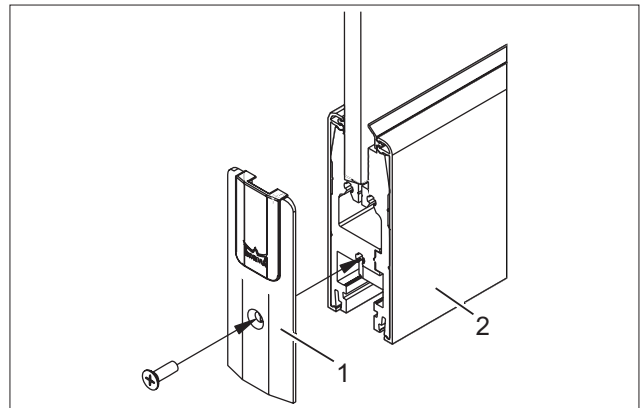

Fig. 47 Screwing together the end cover
2. Screw the end cover (Fig. 47/1) to the lower and upper ends of the door rail (Fig. 47/2) on the swing panel.